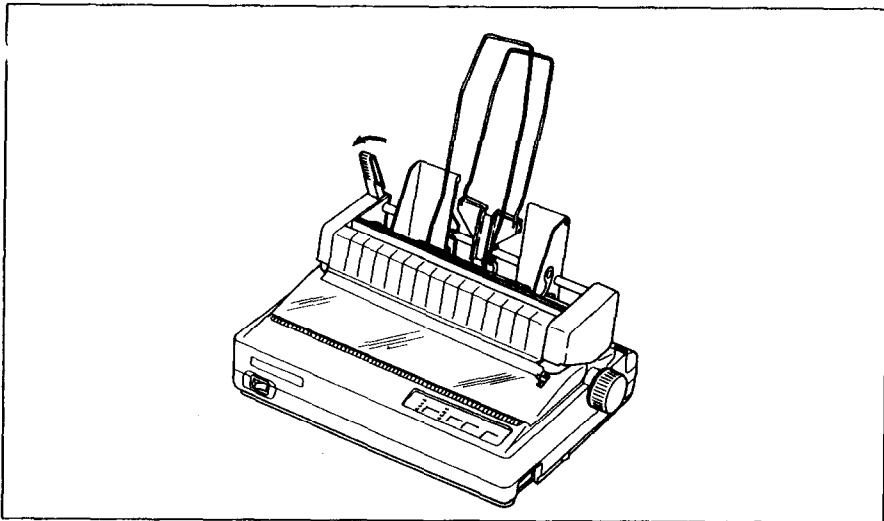

Figure 2-1. Pull the paper loading lever forward.
1. Pull the paper loading lever forward to bring the pressure plate back into position with a clicking sound as shown in Figure 2-1.